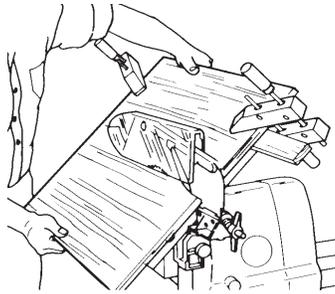

Figure D-14
- When ripping a bevel in wide stock, you may not be able to mount the rip fence on the extension table. In this case, clamp a long, straight board to the underside of the stock and rest this board over the upper edge of the table. When properly positioned, the board will guide the stock. See Figure D-14. Mount the rip fence on the floating table.